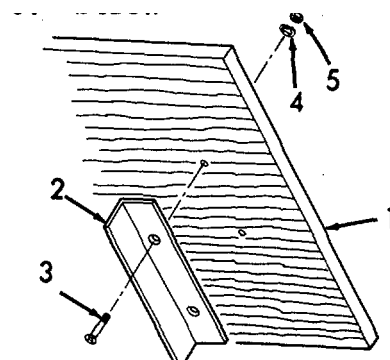

Figure 5-18. Darning Sewing Machine Tray, Installation.
f. *Installation.* (Refer to Figure 5-18).
- (1) Install tray (1).
- (2) Install stop (2).
- (3) Install two screws (3), two lockwashers (4), and two nuts (5).